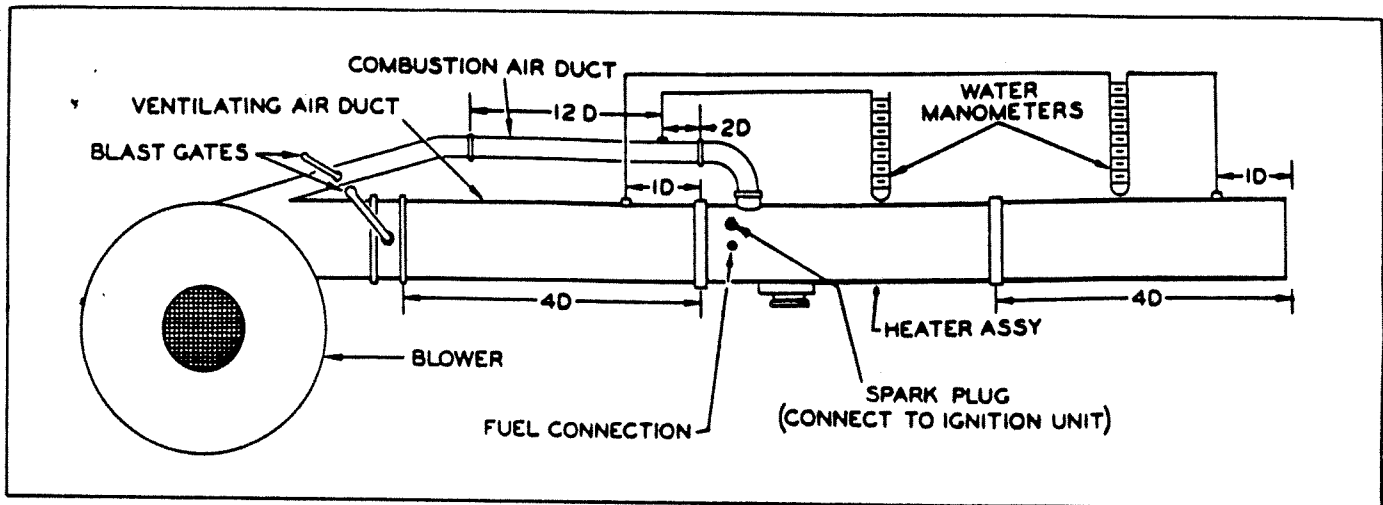

Figure 4. Test Set-Up
h. Connect nozzle aeration tube and elbow (11) to combustion air inlet.
i. Install drain plugs (1) removed at disassembly.
f. Inlet and outlet sections of duct the same diameter as the heater jacket and four diameters in length. Pressure taps should be located as indicated in figure 4.
a. Install heater in bench test set-up similar to that shown in figure 4.